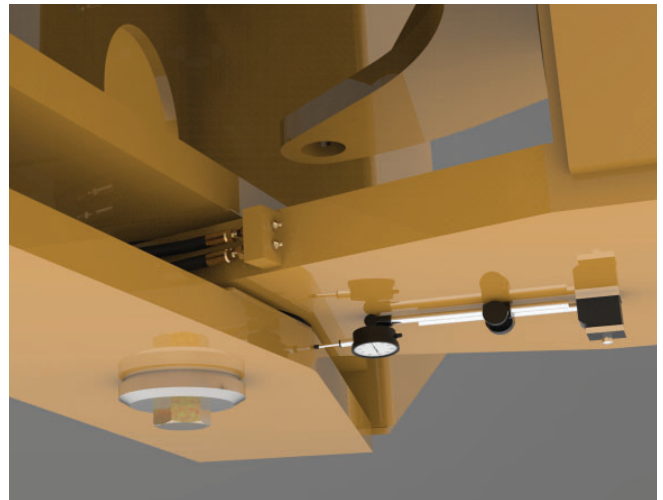

Figure 1 Horizontal Wear Check
1. With the machine parked on level ground, the carriage/bucket/blade lowered, the power turned off, and lockout/tagout procedures employed, set up a dial indicator with a magnetic base on the lower hinge bar, as shown in Figure 1. Zero the indicator in this position.